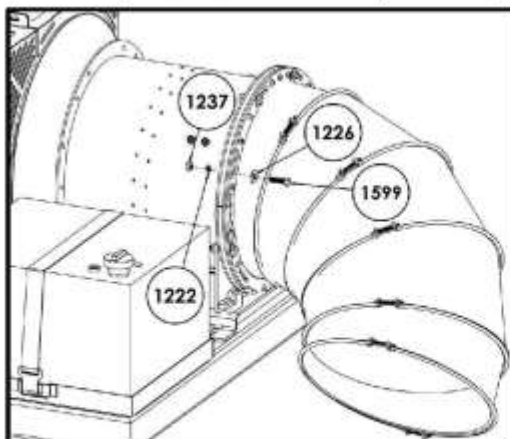

Figure 4 More Hardware for Nozzle Mounting
2. Snug-tighten the nozzle assembly to the blower at the location shown in [Figure 4]. **Note:** The second hardware location is mirrored on the opposite side.